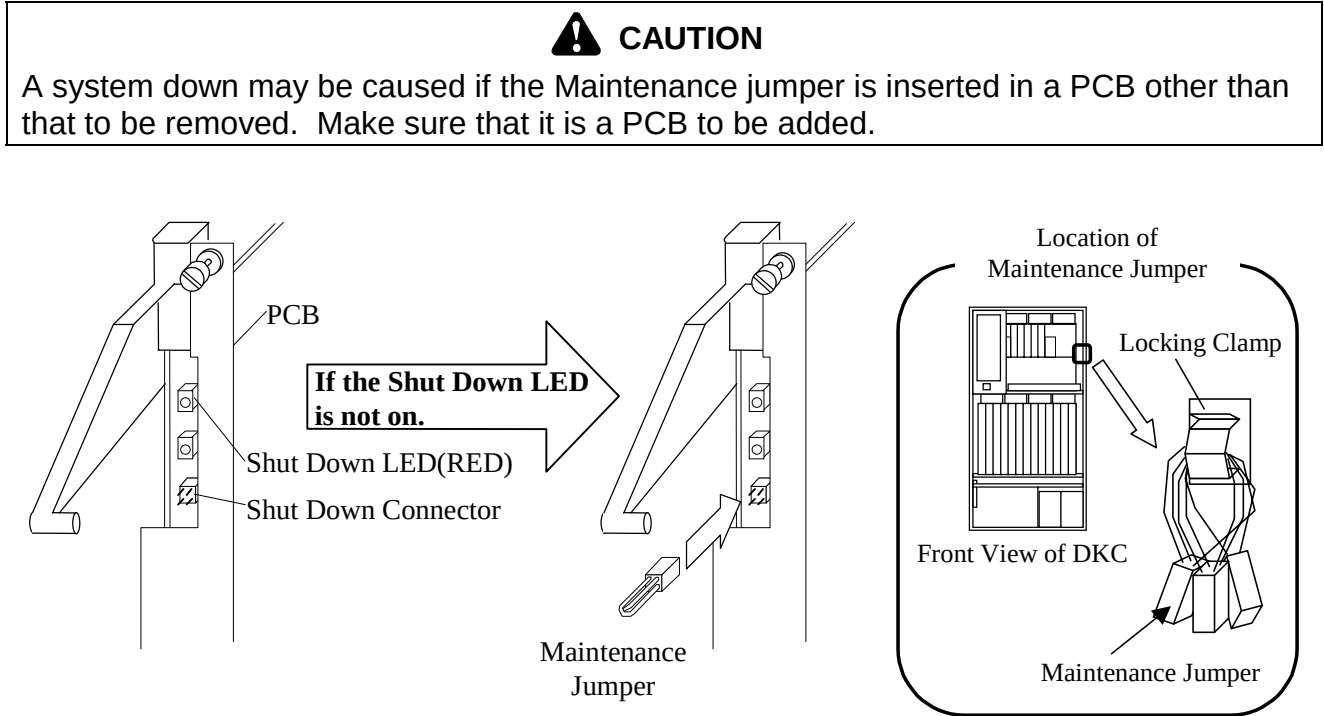

Fig. 3.9.1-1 Location of the Shut Down LED
- a. While referring to Fig. 3.9.1-1 and Table 3.9.1-2, check the Shut Down LED on the Cache Memory PCB in the Front Logic Box. Connect the Maintenance Jumper to the Shut Down Connector if the Shut Down LED is not on. (This procedure [3-1. a.] is not valid for a New Installation.)